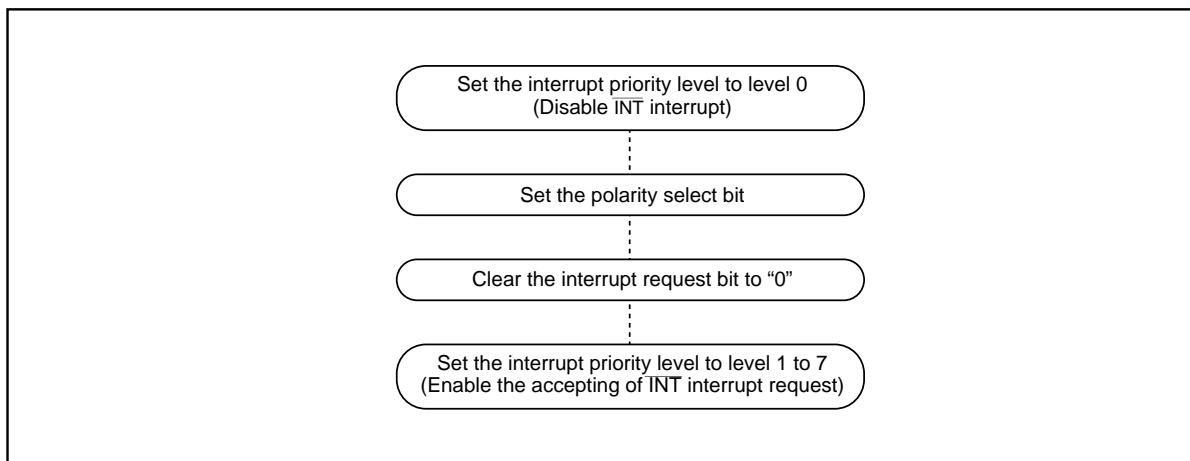

Figure 9.12 Switching condition of INT interrupt request
- When the polarity of the INT0 to INT5 pins is changed, the interrupt request bit is sometimes set to "1". After changing the polarity, set the interrupt request bit to "0". Figure 9.12 shows the procedure for changing the $\overline{\text{INT}}$ interrupt generate factor.